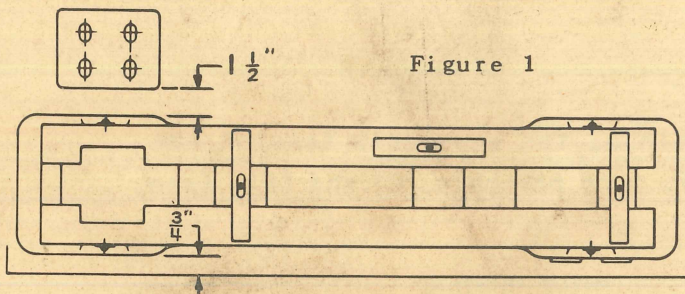

Figure 1
1. Place the lathe on the bench or stand in the position shown in Fig. 1, with the front edge of the lathe legs about $\frac{3}{4}$ " from the front of the bench.